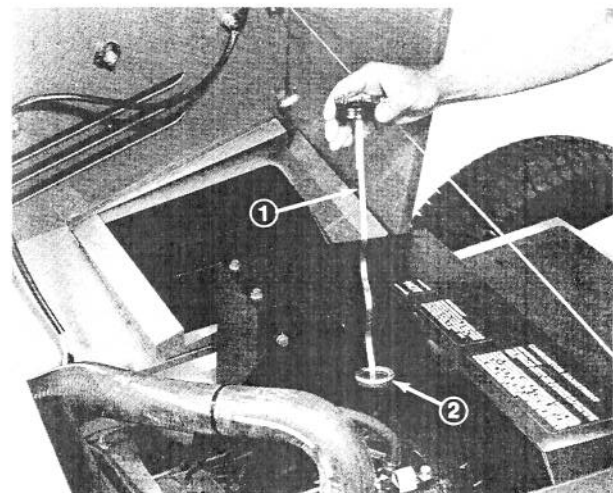

Figure 16
3. Remove dipstick from the top left side of engine (Fig. 16). Add SAE 30 SC, SE or SF classification engine oil until the oil level in the crankcase is up to the "FULL" mark on the dipstick. Add the oil slowly and check the level often during this process. DO NOT OVERFILL. The crankcase capacity is three and one half (3-1/2) quarts (3.31 L) (Fig. 16).